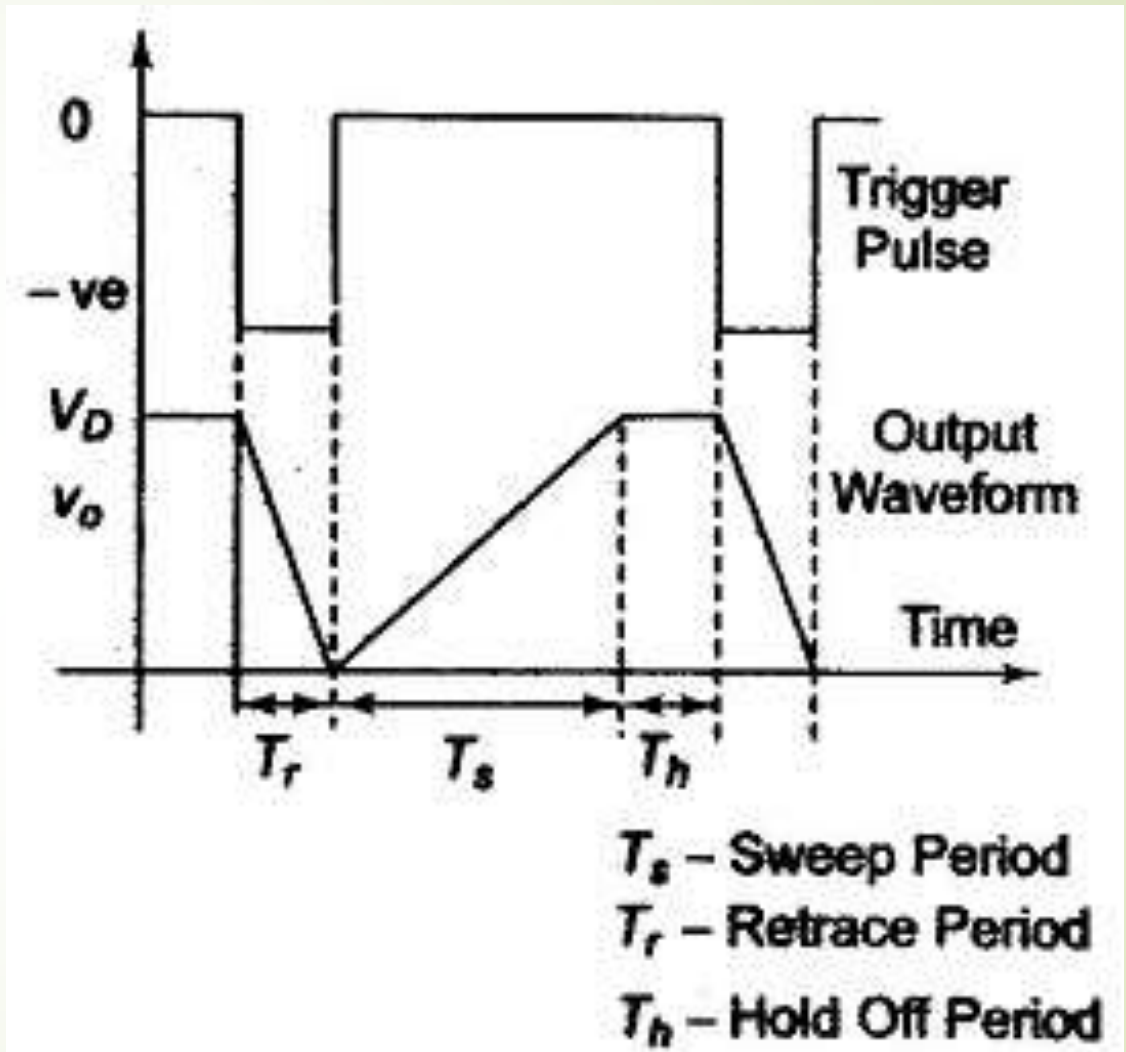

Fig. 7.11 Output Waveform
- ▶ As a result, the C_T discharges rapidly through the UJT until the maintaining voltage of the UJT is reached; at this point the UJT switches off and the C_T charges towards V_{BB} , until it is clamped again at V_D . Figure 7.11 shows the output waveform.